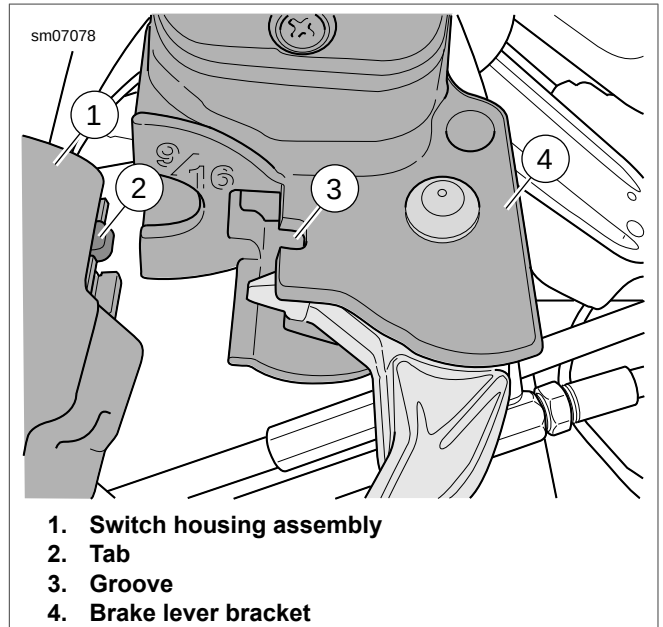

Figure 2-46. Attach Master Cylinder to Right Handlebar Switches
11. Install **new** retaining ring (18) in pivot pin groove. Verify that retaining ring is completely seated in groove.
12. See Figure 2-46. Position the brake lever/master cylinder assembly inboard of the switch housing assembly, engaging the tab (2) on the lower switch housing (1) in the groove (3) at the top of the brake lever bracket (4).